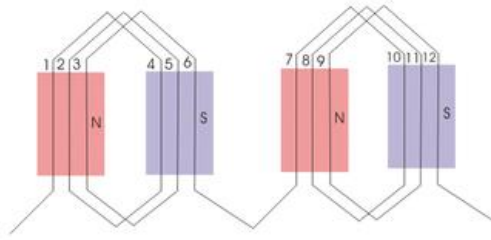

fig.1.13
- lap winding shown in fig.1.13